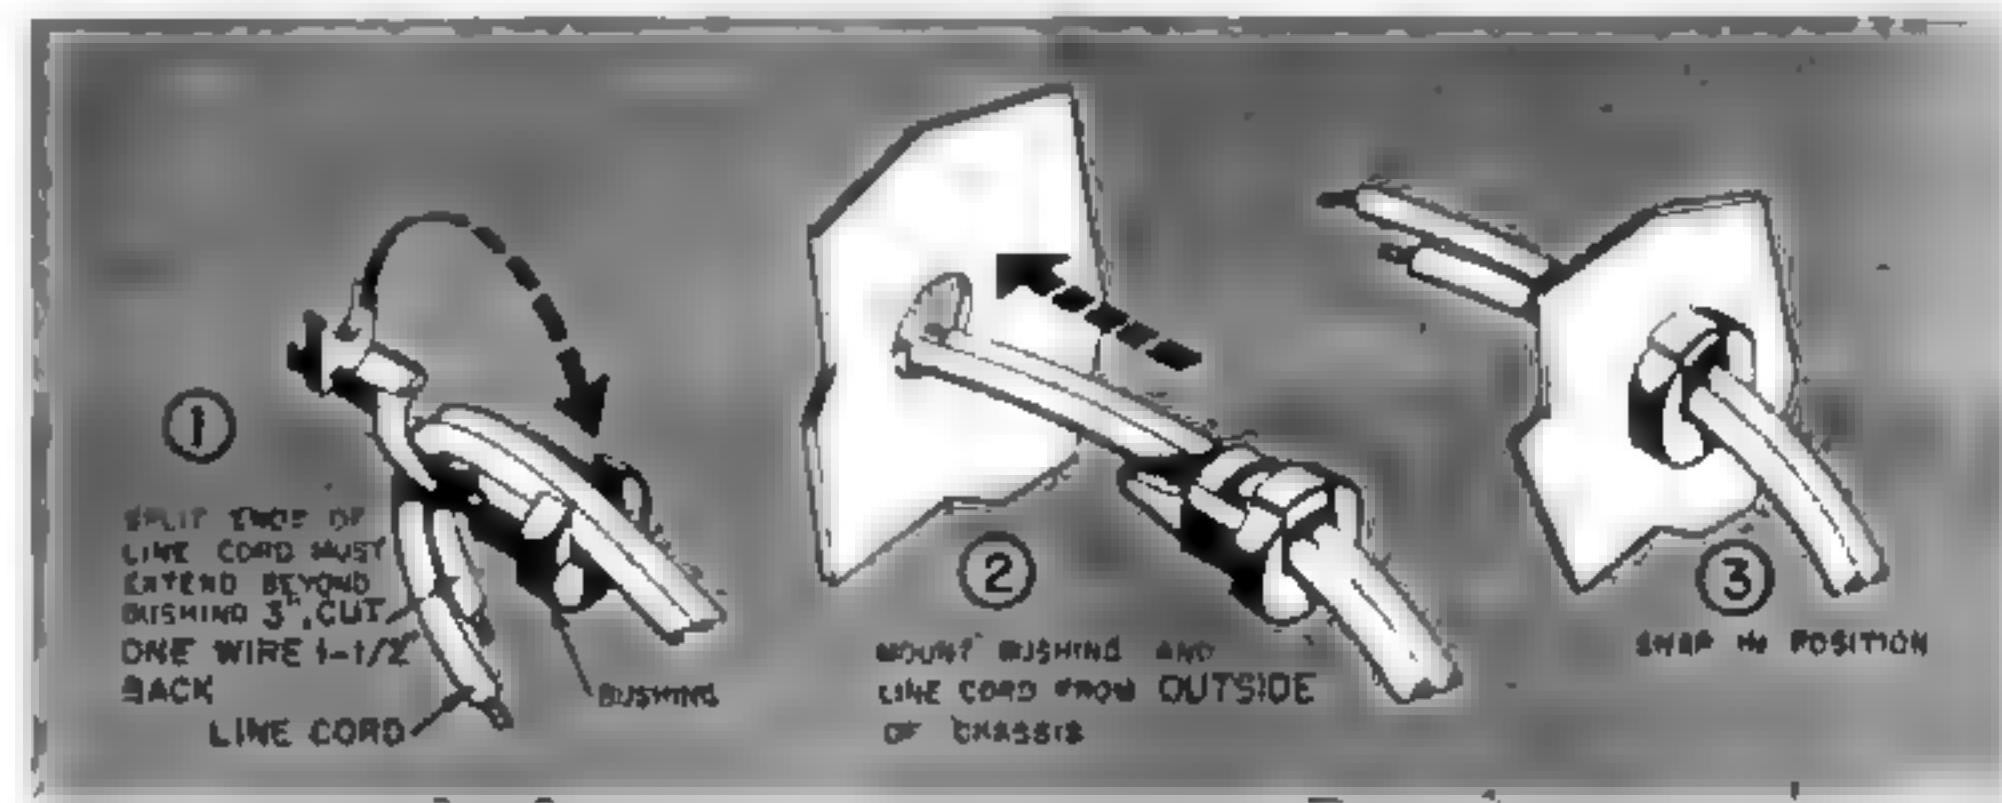

FIGURE 19. LINE CORD MOUNTING
- Line cord and bushing. Mount as shown in Figure 19. Cut  $1\frac{1}{4}$ " from one lead. Strip the insulation back  $\frac{1}{4}$ ". Solder the long line cord lead to terminal 5 of TS-7 (2 wires). Solder the short line cord lead to terminal 2 of the fuse holder.